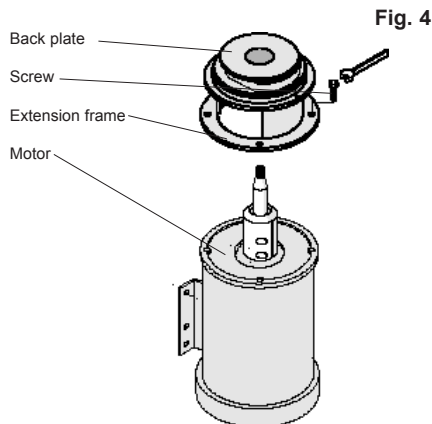

Fig. 4
4. If possible, stand the pump on end. See Fig. 4.
5. Undo the four motor flange bolts between the motor and extension frame and remove them. See Fig. 4.
6. Lift the back plate, extension frame and spacer flange (where fitted), which are still bolted together, up and off the shaft. See Fig. 4.